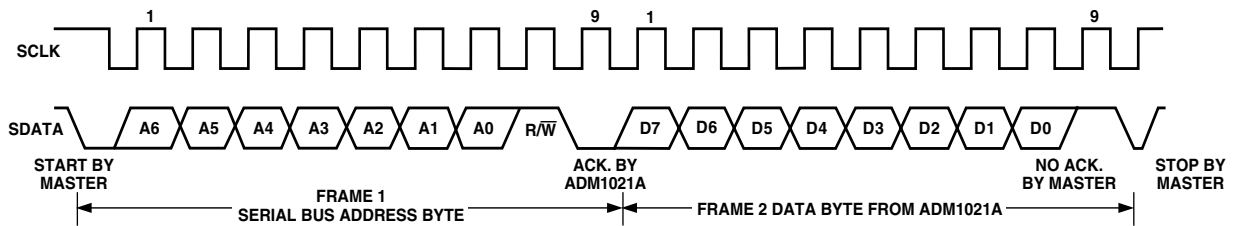

Figure 15. Reading Data from a Previously Selected Register
- A read operation is then performed consisting of the serial bus address, R/\overline{W} bit set to 1, followed by the data byte read from the data register. This is shown in Figure 15.